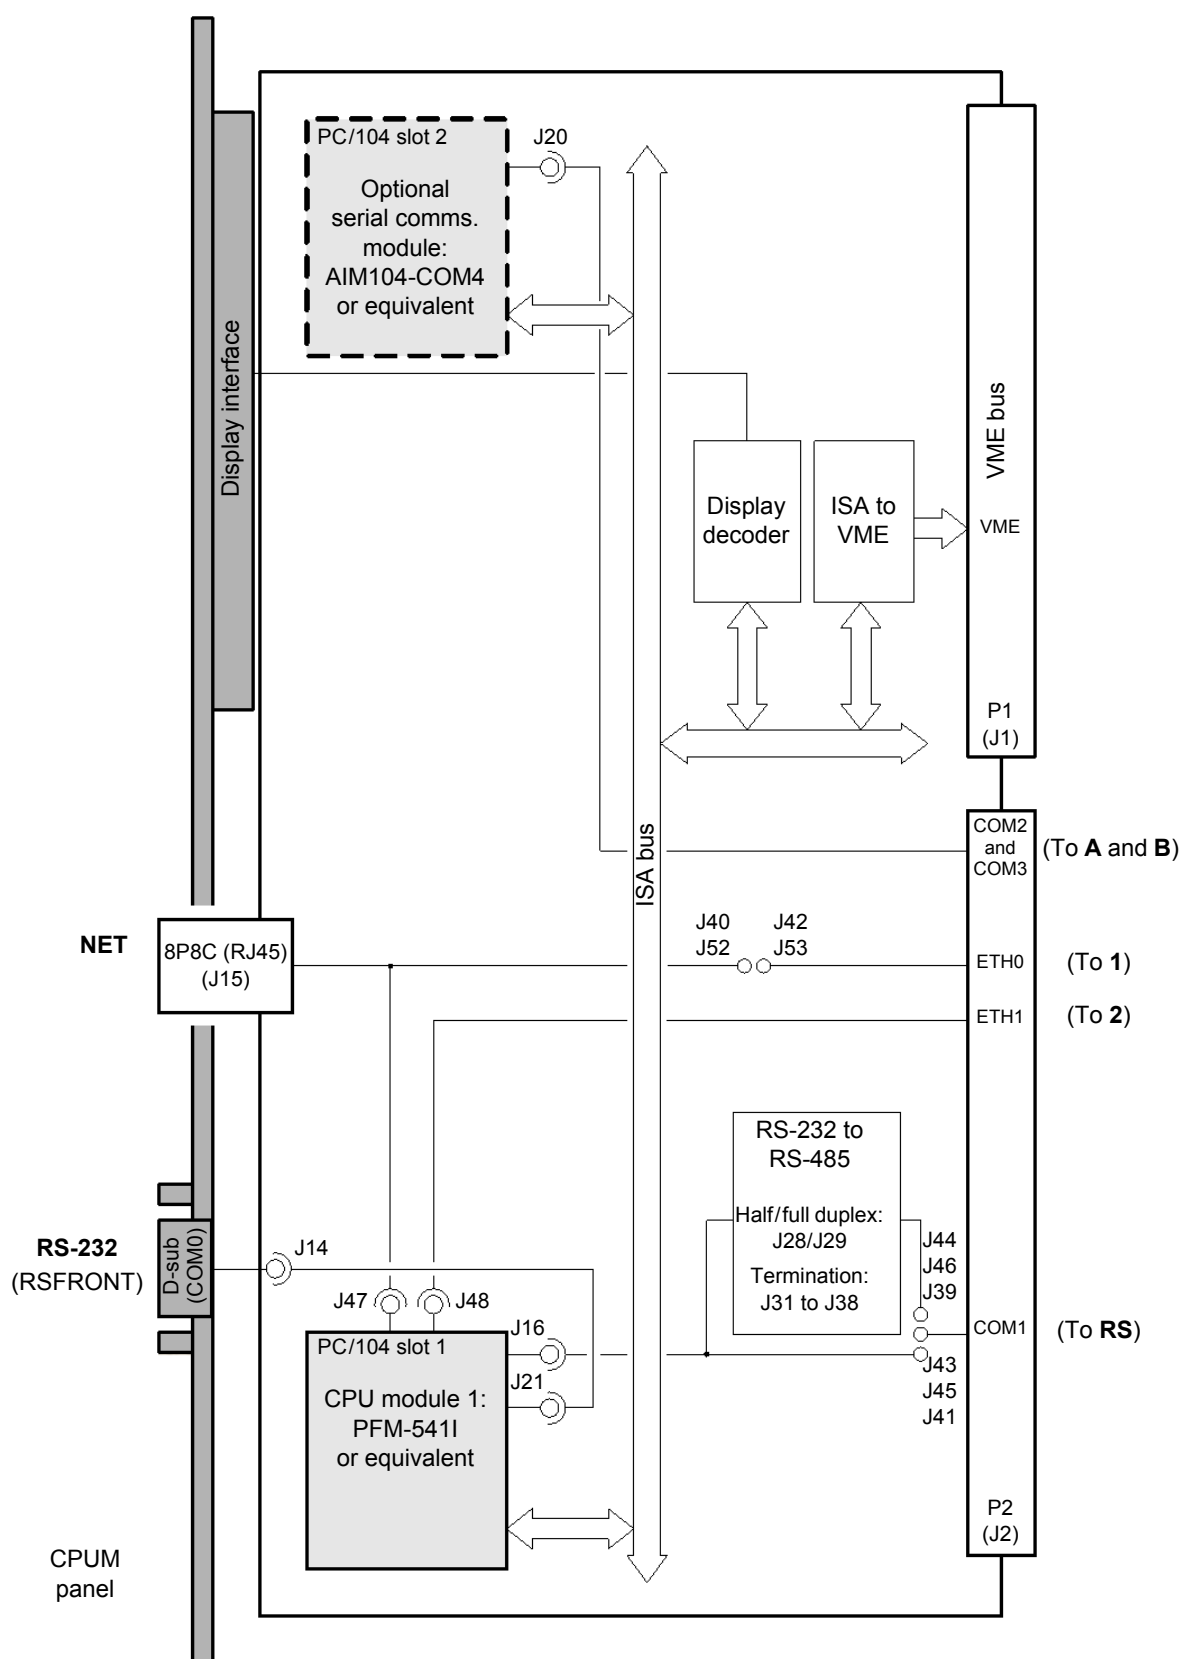

Figure 6-1: Block diagram of CPUM card fitted with the PFM-541I or equivalent CPU module (PNR 200-595-076-HHh or later)
- Later versions of the CPUM card (PNR 200-595-076-HHh or later) fitted with the PFM-541I or equivalent CPU module (see Figure 6-1).
Figures 6-1 and 6-2 show block diagrams of the different versions of the CPUM card with their different CPU modules:
- The RS-232 serial port on the card's panel, shown as **RS-232** (COM0) in Figures 6-1 and 6-2, corresponds to the RSFRONT device in the `modbusDefault.cfg` configuration file.